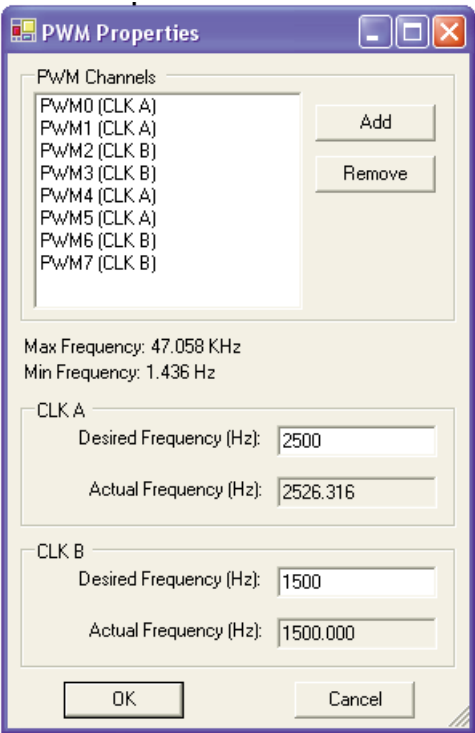

Figure 10.3
9. Enter the desired frequency for Clock A and Clock B (if installed). The PLC on a Chip has 8 available PWM Channels. These 8 channels are either controlled with Clock A or Clock B. This allows two different PWM frequencies. The Minimum and Maximum frequencies are displayed in the PWM Properties dialog. The frequency for Clock A and Clock B must be in this range. The actual frequency is what will be seen on the actual PWM hardware output channels (as close as possible to the desired frequency; this is due to limitations of the hardware). See Figure 10.3.